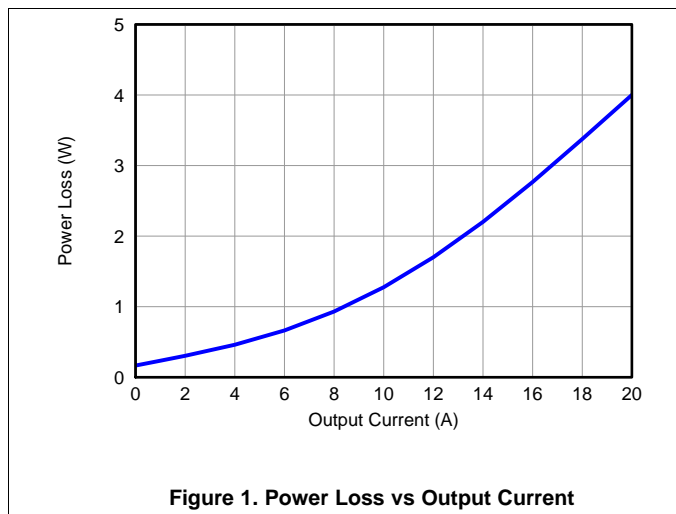
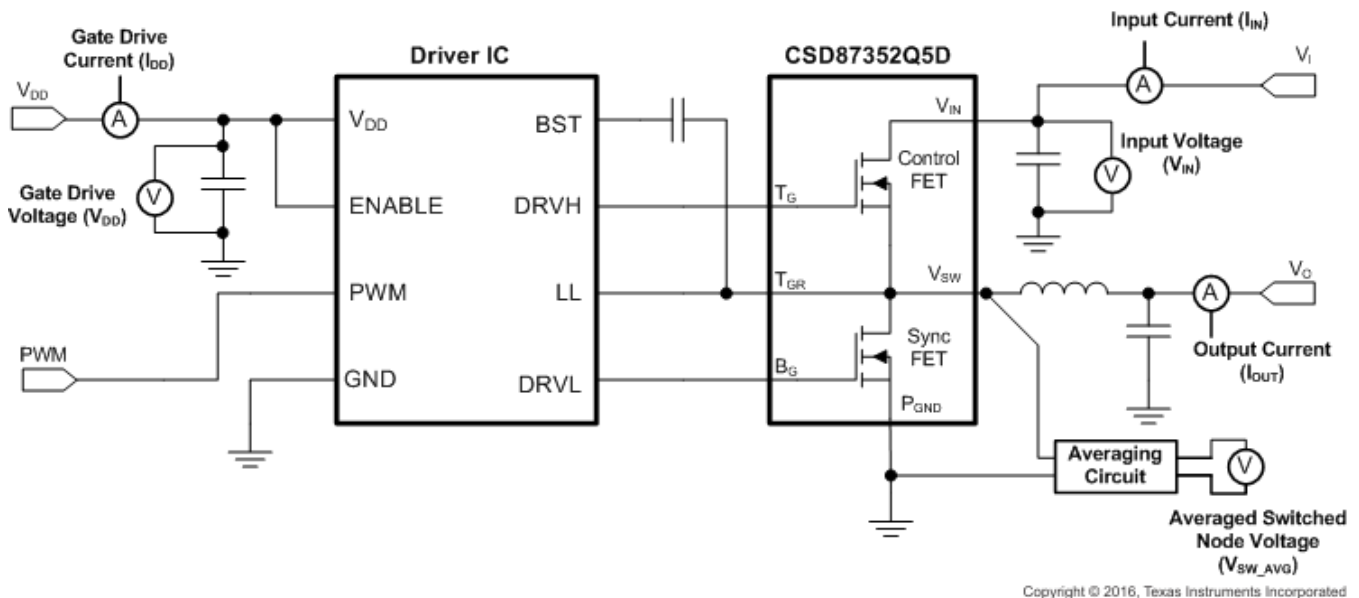

Figure 1. Power Loss vs Output Current
Figure 32. Typical Application
MOSFET centric parameters such as $R_{DS(ON)}$ and Q_{gd} are needed to estimate the loss generated by the devices. In an effort to simplify the design process for engineers, Texas Instruments has provided measured power loss performance curves. **Figure 1** plots the power loss of the CSD87330Q3D as a function of load current. This curve is measured by configuring and running the CSD87330Q3D as it would be in the final application (see **Figure 32**). The measured power loss is the CSD87330Q3D loss and consists of both input conversion loss and gate drive loss. **Equation 1** is used to generate the power loss curve.
The power loss curve in **Figure 1** is measured at the maximum recommended junction temperatures of 125°C under isothermal test conditions.
- Power loss at 15 A = 2.2 W (Figure 1)